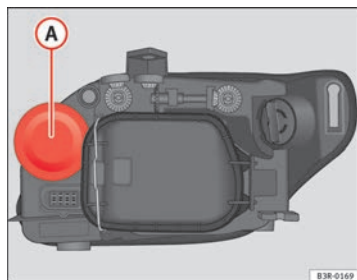

Fig. 218 Turn signal
- Pull the rubber cap ⇒ fig. 218 to remove it.